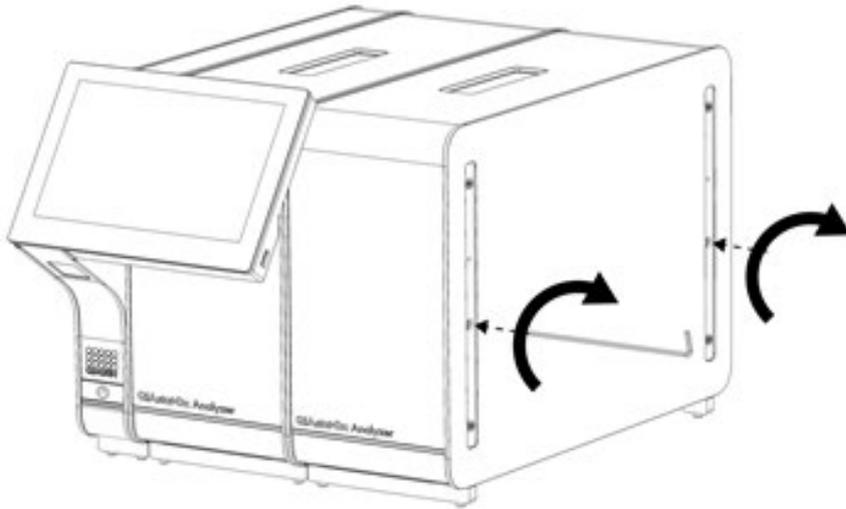

Figure 16. Aligning and attaching the additional Analytical Module.
4. Align the additional Analytical Module with the existing Analytical Module. Tighten the screws using the Analytical-Operational Module Assembly Tool delivered with the QIAstat-Dx Analyzer 1.0 (Figure 16).